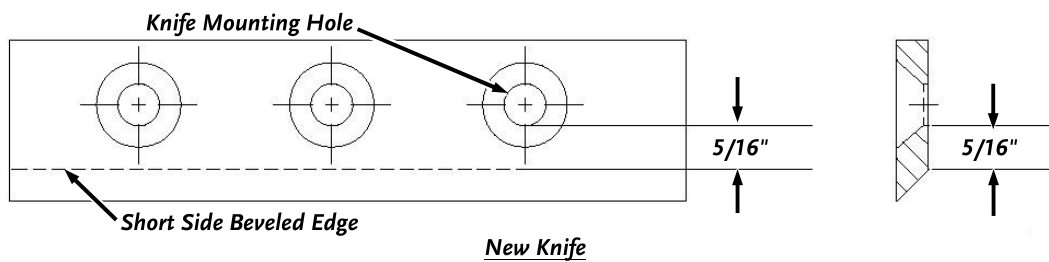

Figure 16
3. Rotate the Flywheel with a stick until the Knife is centered in the opening (Figure 16).
- A new Chipper Knife has a  $5/16$ " measurement between the short side bevel edge and the Knife mounting holes (**Figure 16**).